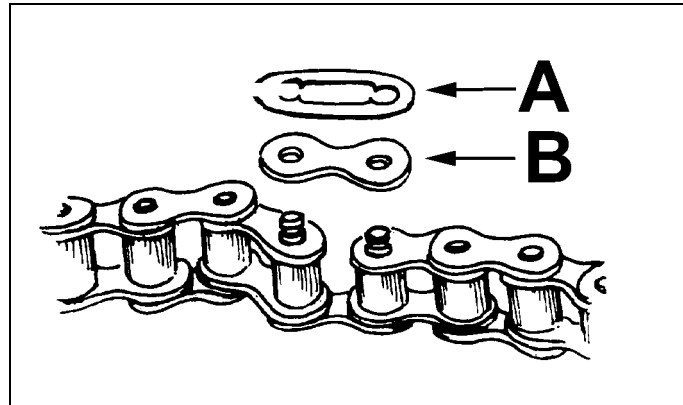

Figure 29
3. Remove the master chain link (*Figure 29*). First remove the lock clip (A) with a flat-head screwdriver and pliers. You'll need to lift one side and rotate the clip to get it off the master link. Next remove the side plate (B). Then remove the master chain link.